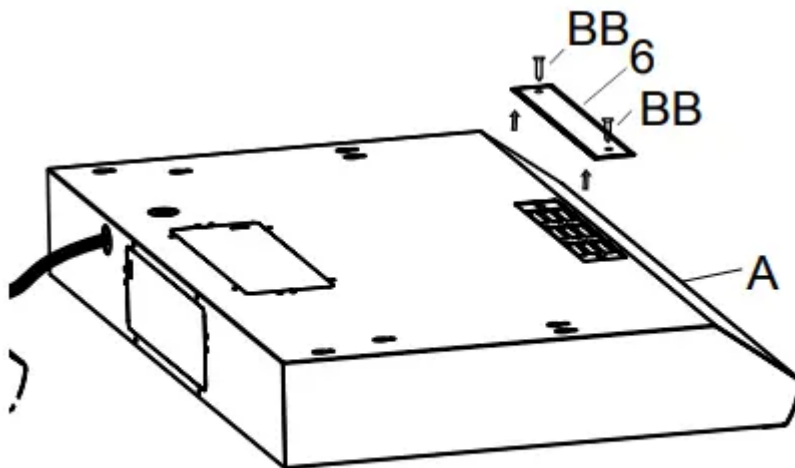

Fig.12
- If you are venting indoors, unscrew the 2 screws holding cover (6) in place and remove the cover as per Fig. 12. DO NOT REMOVE ANY OTHER VENTING HOLE COVER